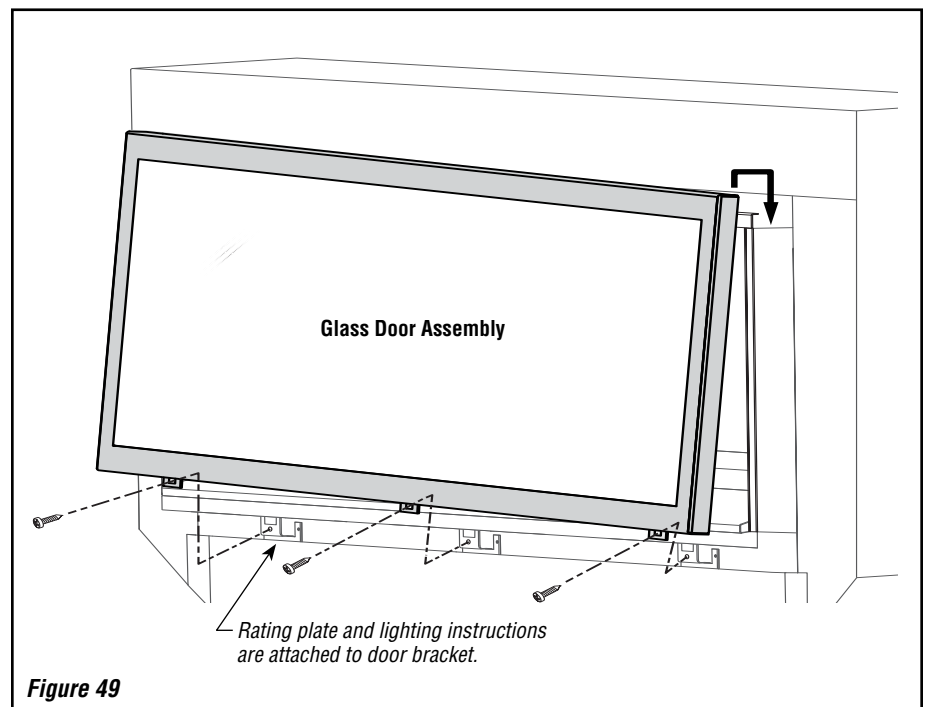

Figure 49
2. Remove the fireplace glass door assembly, if installed (see **Figure 49**).
1. While holding the door assembly by the side edges, hook the top edge to the fireplace, and then swing the bottom edge in toward the fireplace, **taking care not to damage the glass (Figure 49).**